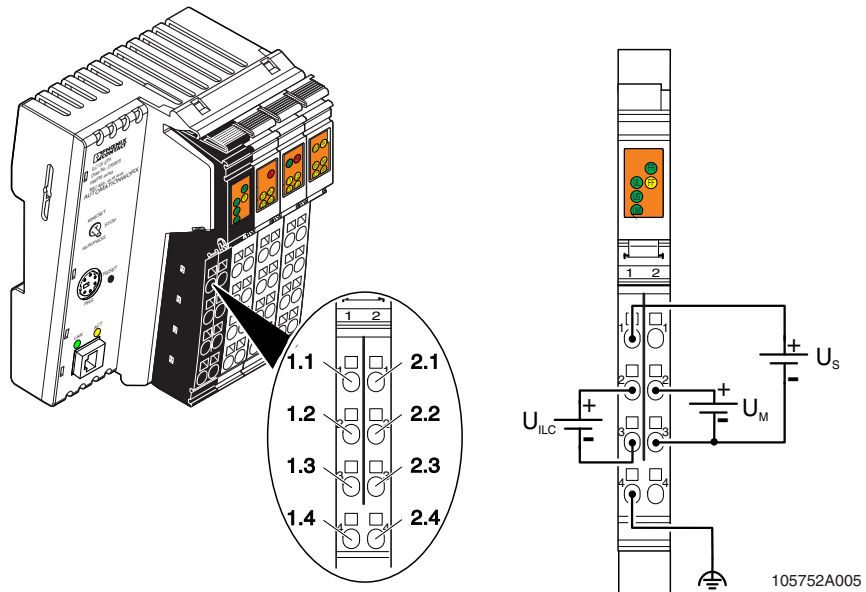

Figure 3-7 Connecting the supply voltages
- Connect the supply voltage to both Inline controllers, as shown in Figure 3-7.